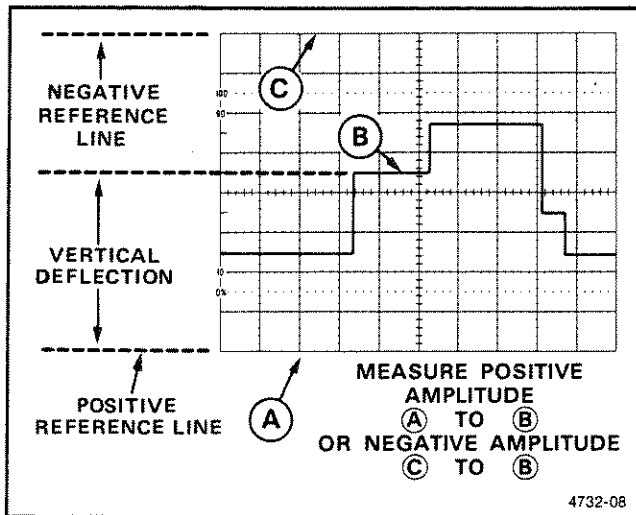

Figure 2-11. Instantaneous voltage measurement.
9. Measure the divisions of vertical deflection between the ground reference line and the point on the waveform at which the level is to be determined (see Figure 2-11).
EXAMPLE: The measured vertical deflection from the reference line is 4.5 divisions (see Figure 2-11), the waveform point is above the reference line, a 10X attenuator probe is being used, and the VOLTS/DIV switch is set to 2 V (at 10X PROBE setting).